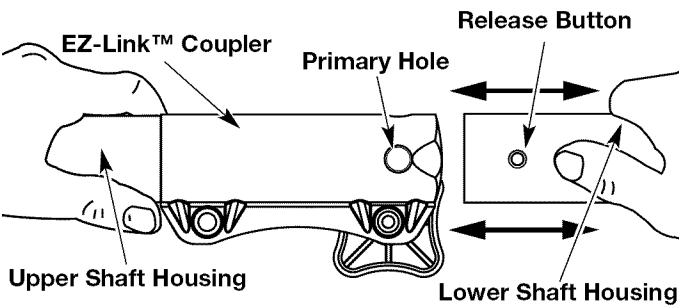

Fig. 7
3. While firmly holding the upper shaft housing, pull the cutting attachment or add-on straight out of the EZ-Link™ coupler (Fig. 7).
2. While firmly holding the add-on, push it straight into the EZ-Link™ coupler (Fig. 7).
**CAUTION:** Lock the release button in the primary hole (Fig. 7) and securely tighten the knob before operating this unit.